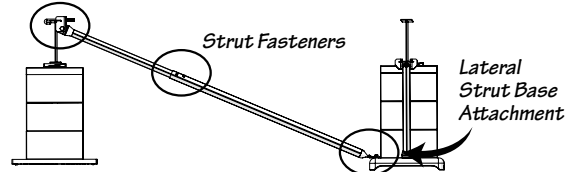

Fig. 4-4
- Secure the extended lateral strut by mounting 4 self tapping screws in the 4 holes in the outer lateral tube as shown in Fig. 4-4. Attach two screws per side.